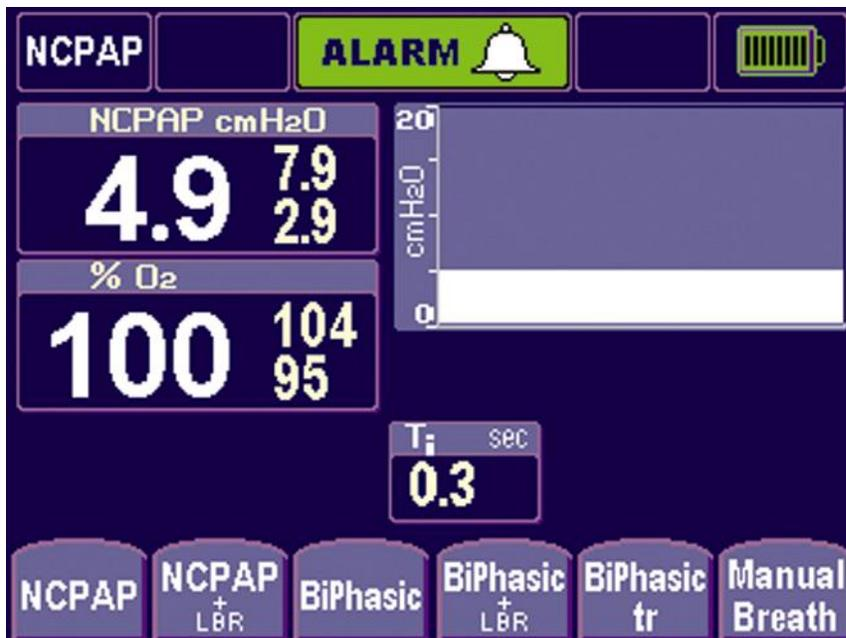

Figure 3
- The next screen varies but select BiPhasic soft key (Figure 3).